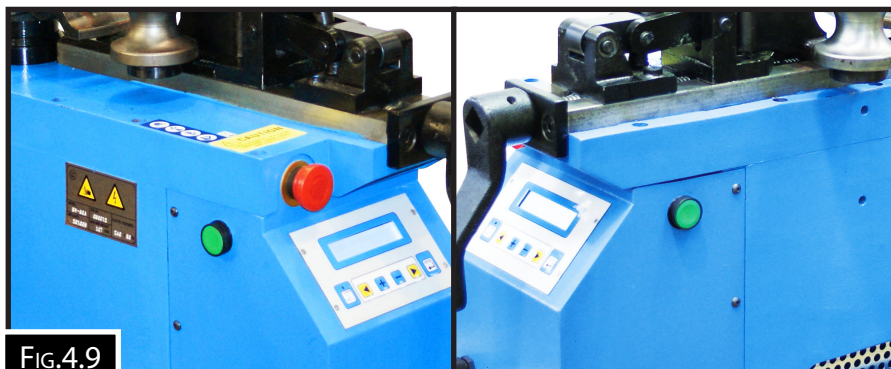

FIG.4.9
5. With two hands, press simultaneously the left hand and right hand green buttons found on the side of the machine body and hold the buttons in until bending is complete, (Fig.4.9)